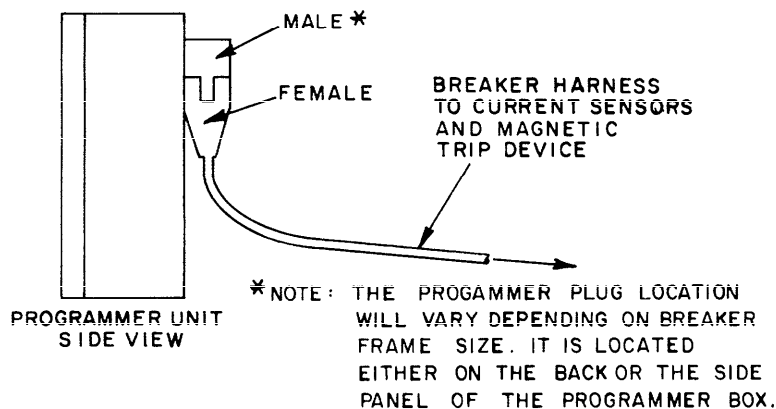

Fig. 2. Normal in-service breaker connection
**CAUTION:** NEVER DISENGAGE THE HARNESS CONNECTOR FROM THE PROGRAMMER UNIT ON A BREAKER THAT IS ENERGIZED AND CARRYING LOAD CURRENT. THIS WILL OPEN-CIRCUIT THE CURRENT SENSORS, ALLOWING DANGEROUS AND DAMAGING VOLTAGES TO DEVELOP. SEE FIG. 2.